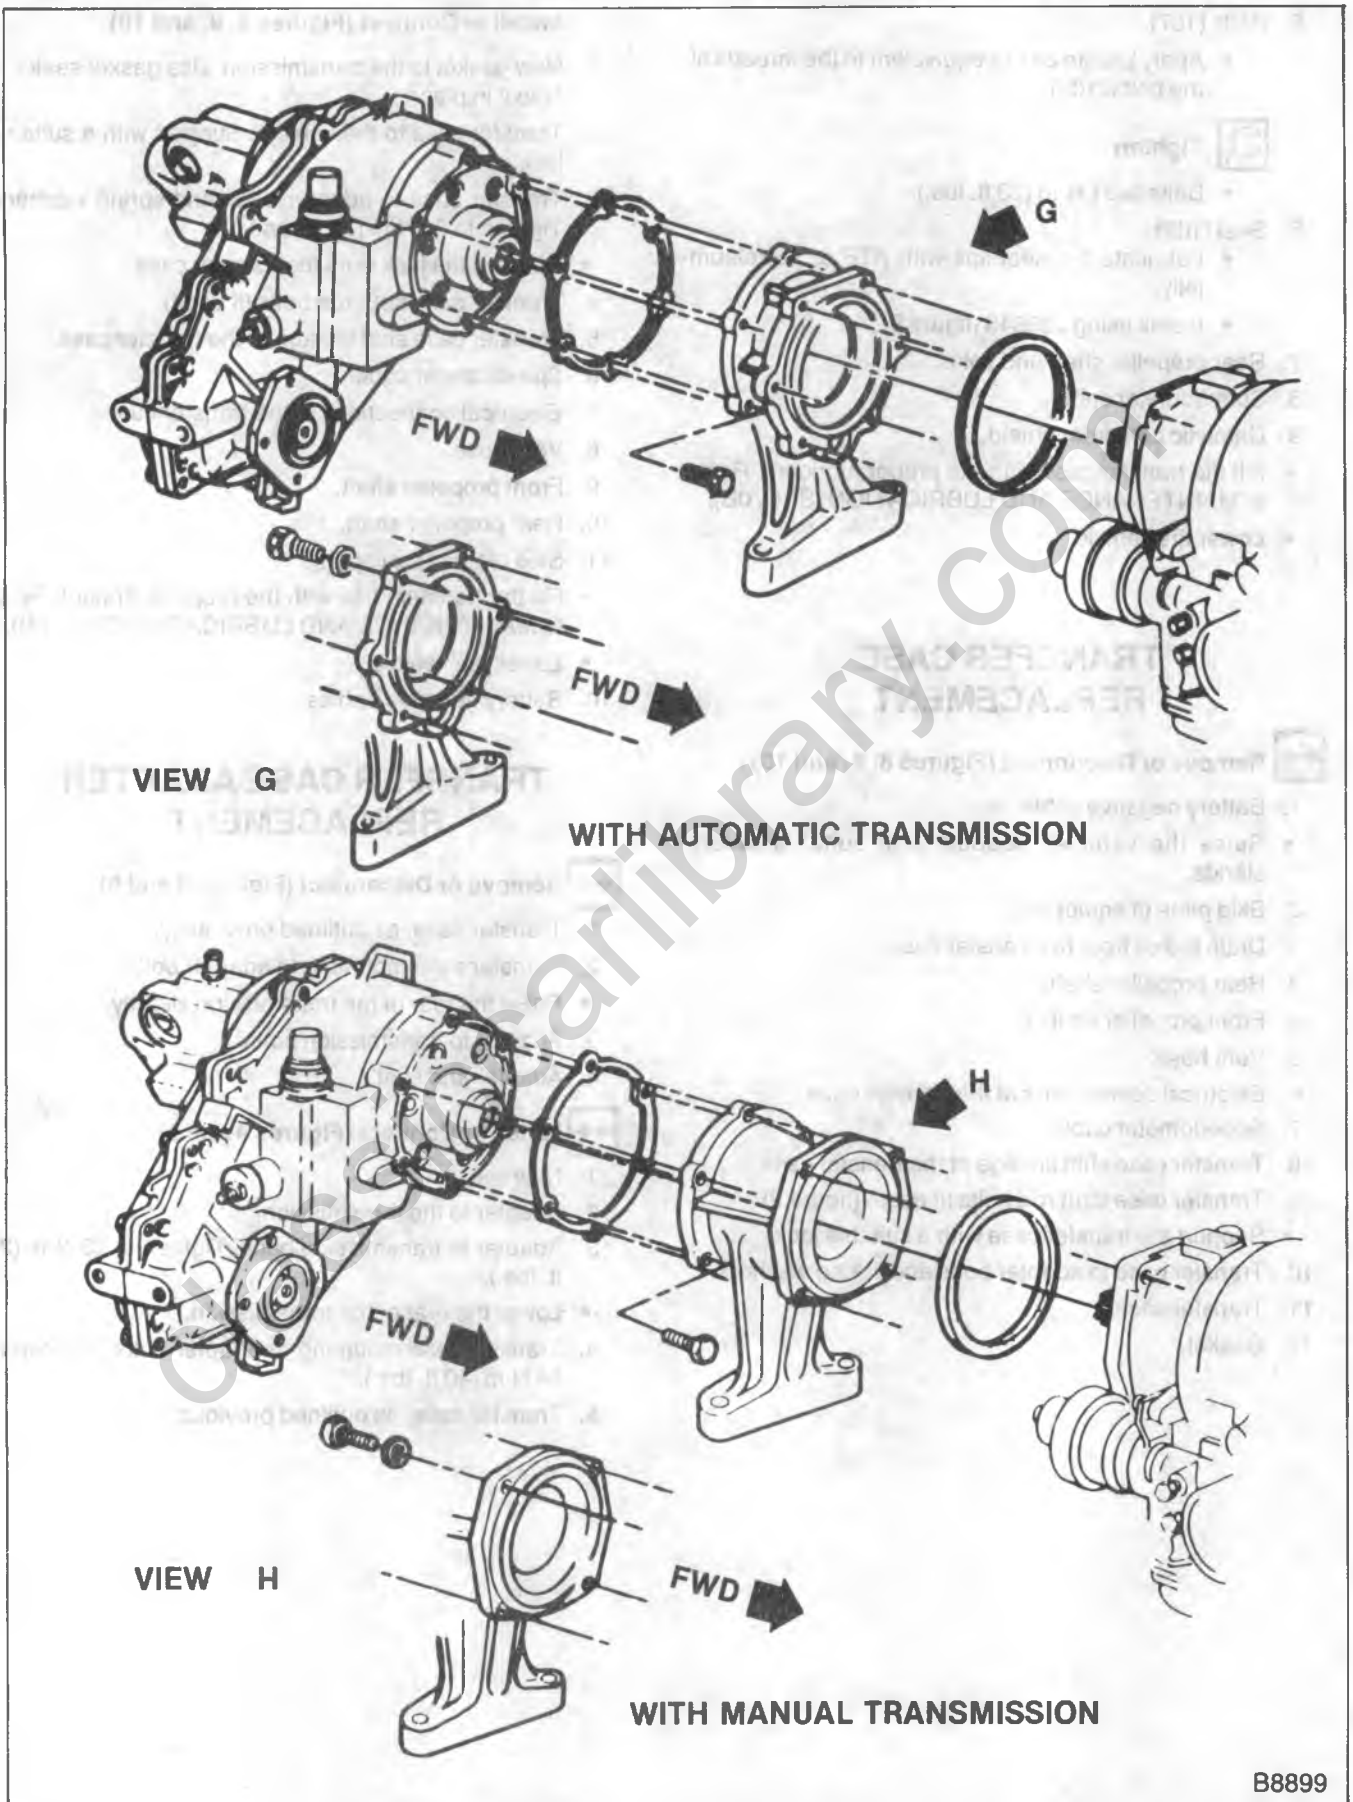

Figure 8 — Transfer Case and Adapter (V10/15 and V20/25 Models)
**Remove or Disconnect (Figures 8, 9, and 10)**
Install or Connect (Figures 8, 9, and 10)
**Remove or Disconnect (Figures 8 and 9)**
**Install or Connect (Figures 8 and 9)**